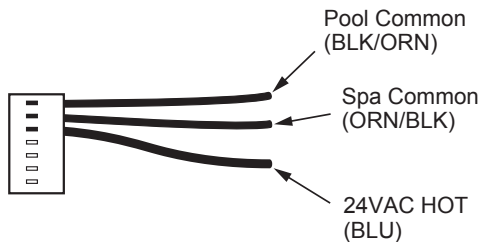

Figure 49. 7-Pin Remote Interface Harness
5. On the "Remote Interface Harness", connect the BLUE wire to one side of the "REMOTE" switch and connect the other side to either the ORANGE/BLACK wire for "SPA" operation or the BLACK/ORANGE wire for "POOL" operation. See **Figure 49**.
4. On the "Remote Interface Harness" connect the BLUE wire to one side of the "REMOTE" switch and connect the ORANGE/BLACK wire for "SPA" operation and the BLACK/ORANGE wire for the "POOL" operation. See **Figure 49**.